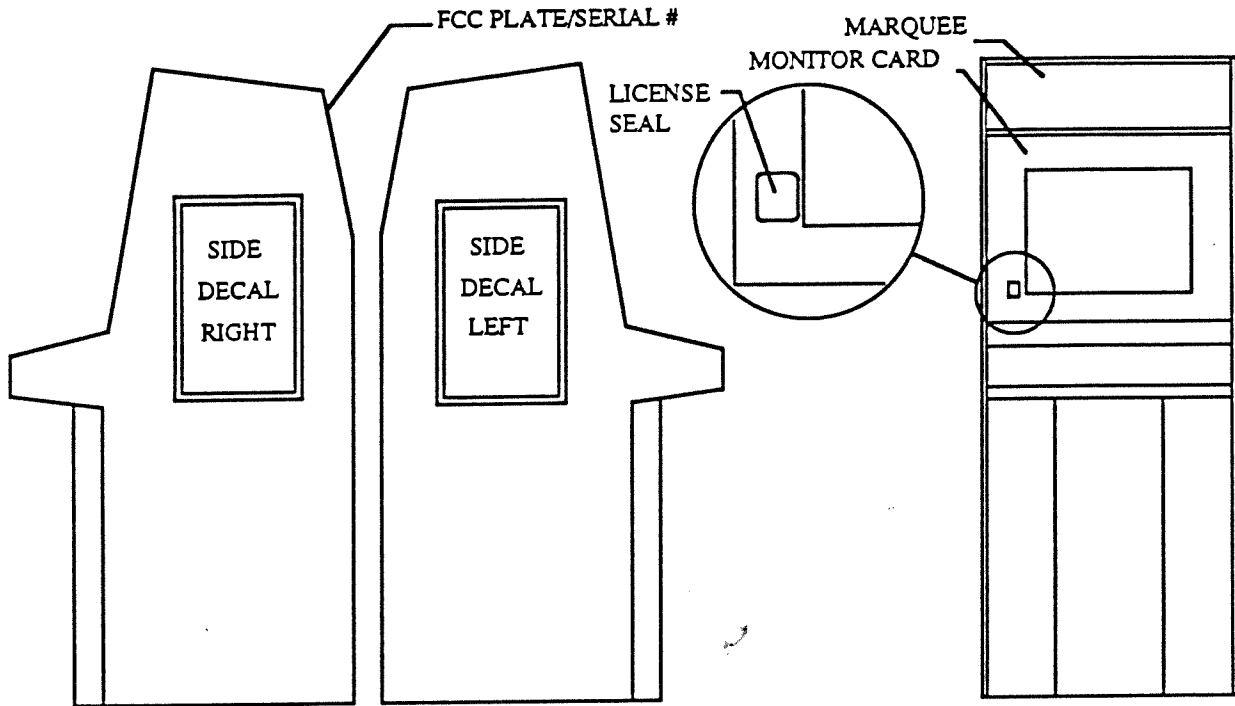

Figure 1
35. Locate the Kit SERIAL NUMBER STICKER and FCC PLATE. Install on the rear of the game cabinet. (see figure 1)